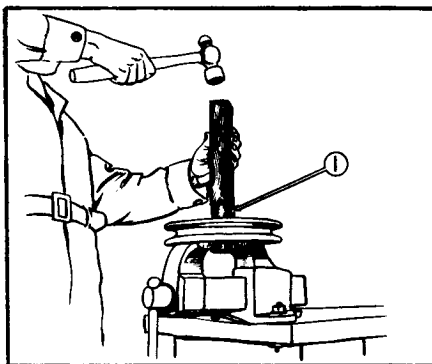

Figure 36 Replacing Sheave Bushings
Start new bushing (1), Figure 36, into the sheave. By using a hardwood block as shown, damage to the bushing is avoided. **USE PRESS IF AVAILABLE.** As the new bushing is driven into place, the old bushing will be driven out.